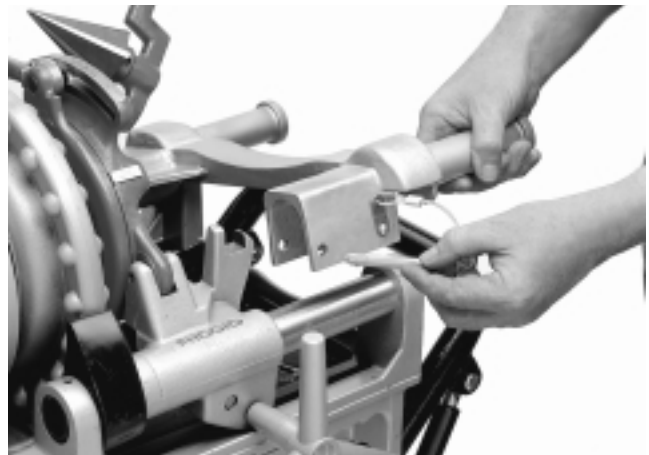

Figure 19 – Locking Pin On 916 Roll Groover Adapter Bracket
4. Attach adapter bracket to 300 Compact by placing C-shaped section of bracket on rear rail (opposite operator) and bringing operator side of bracket down onto operator side rail. Center section of bracket will cover 300 Compact front rail supports (*Figure 19*).